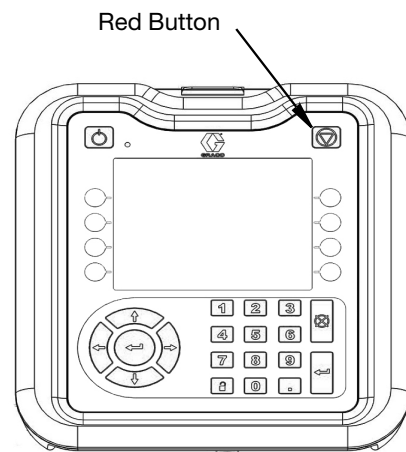

FIG. 35
3. Disable the ADM by pressing the top right red button. See FIG. 35.